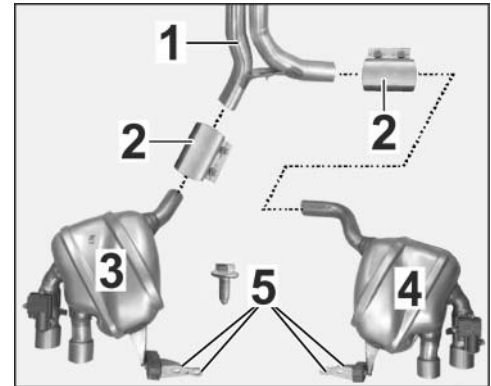

Figure 48
5.2 Install new rear silencers (⇒ Figure 48).